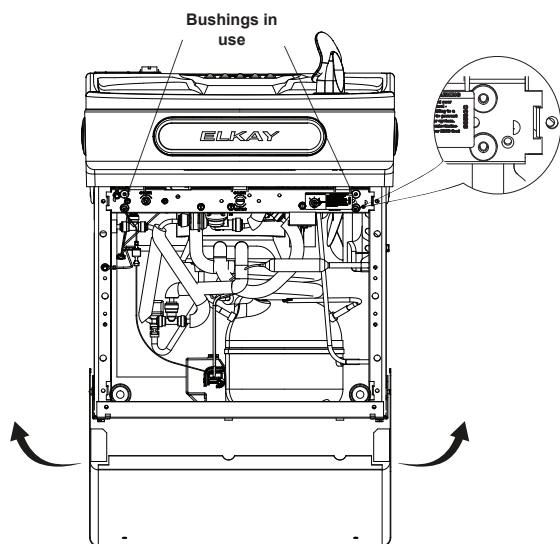

Fig. 7
3. To remove the wrapper, hold each side and gently pull wrapper up and out of pivoting bracket (see Fig. 7).
2. Removing the wrapper from the pivoting bracket when servicing the unit is recommended. For quick serviceability, the wrapper may be left in place (see Fig. 7).